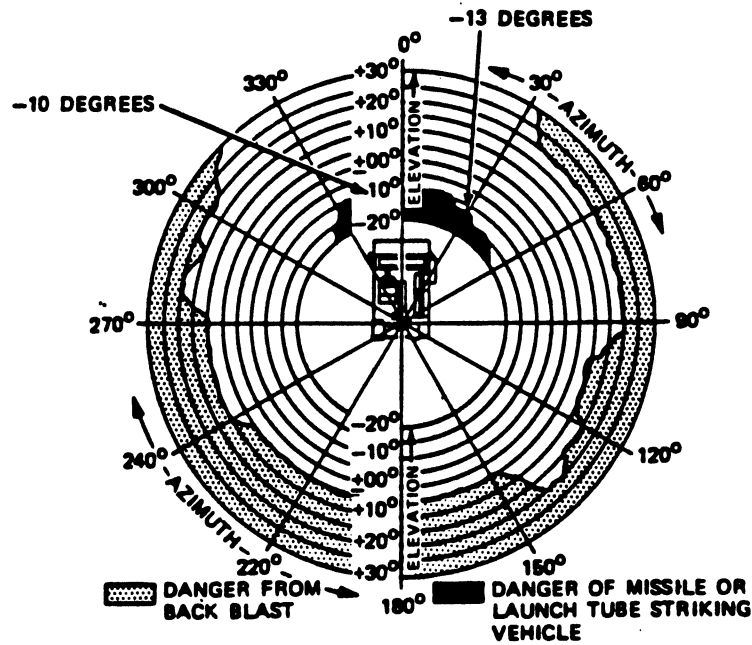

Fig 4-34. Restricted firing angles--continued.
- a. If the launcher is pointed directly FORWARD, then the gunner MUST NOT allow the elevation of the launcher to go below -10 DEGREES (fig 4-34).
- b. If the launcher is pointed over the RIGHT FRONT TIRE, then the gunner MUST NOT allow the elevation of the launcher to go below -13 DEGREES (fig 4-34).